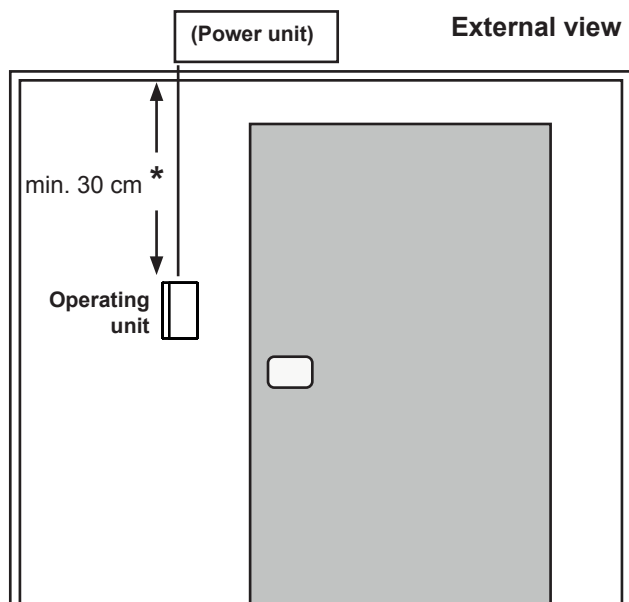

Fig. 2 Position of the operating unit
*For installation inside a sauna cabin, a minimum clearance of 30 cm to the cabin roof must be maintained (see Fig. 2).